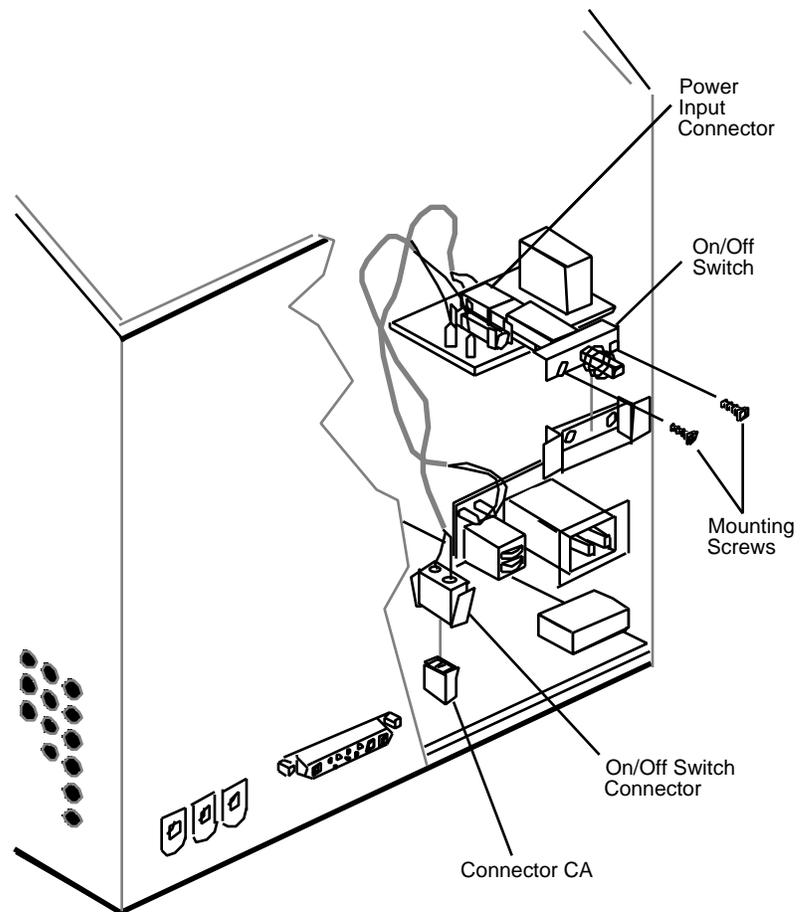

FIGURE 16
1. Replace the on/off switch on the chassis mounting bracket, and install the two mounting screws (Figure 16).
2. Connect the power input connector (Figure 16) to the connector on the on/off switch board.
3. Connect the 2-wire, on/off switch connector (Figure 16) to the connector labelled CA on the main deflection board.
4. Replace the plastic knob (Figure 16) on the on/off switch.